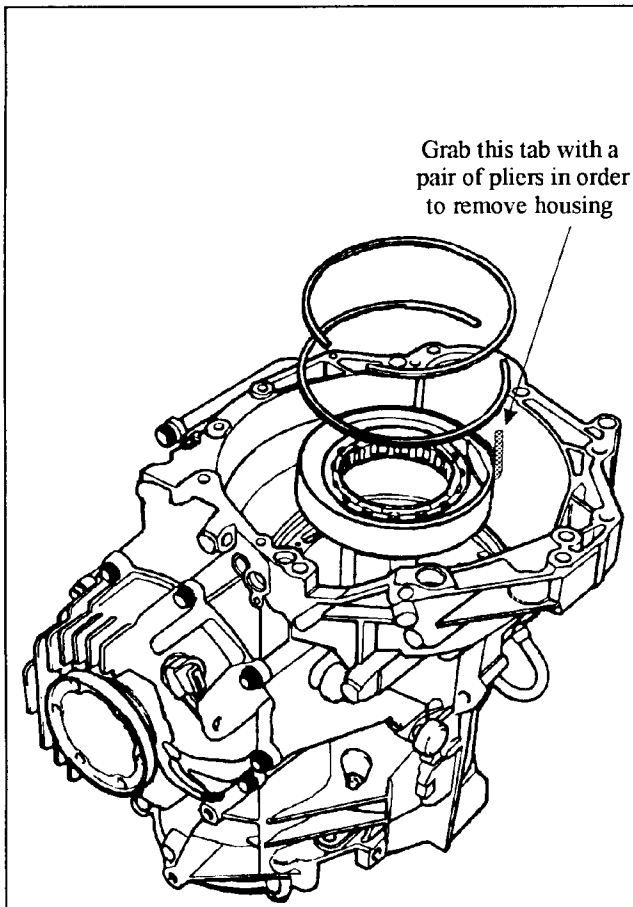

Figure 67
19. Remove the snap ring that holds up the hollow supporting tube then remove the snap ring that holds down the B1 clutch piston housing and set them aside. Using a pair of needle nosed pliers grab the tab on the B1 clutch piston housing and gently wiggle it out of the case. Be careful not to break the tab off of the housing. (See figure 67).